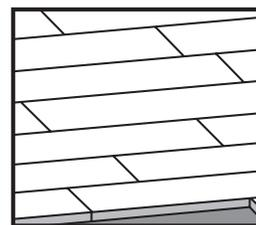

FIGURE 1.1 (CORRECT)
STEP 4: Cut off the last piece in your starting row, leaving proper expansion space from the wall ½” (13 mm) from the wall and use it as your 1st piece or starter board for the 2nd row. It is best to not use a piece under 6” (≈15 cm) as they tend to move out of position. Continue on each row, engaging the groove into the tongue along the side 1st, then the end to be engaged 2nd. Avoid if possible, end joint cluster by staggering ends by twice the plank width or approximately 8 ½” (21,5 cm) on 4 ¼” wide flooring. If any adhesive comes in contact with the face of planks, use adhesive remover before it dries. Figure 1.1 and 1.2